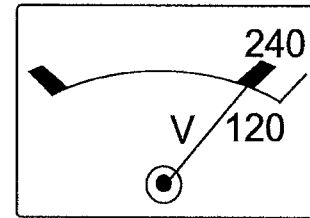

Figure 46. AC Voltmeter (120/240V)
4. Also verify that the AC voltmeter is registering a voltage reading as shown in Figure 46.
- Verify that the AC voltmeter is registering a voltage reading as shown in Figure 46.